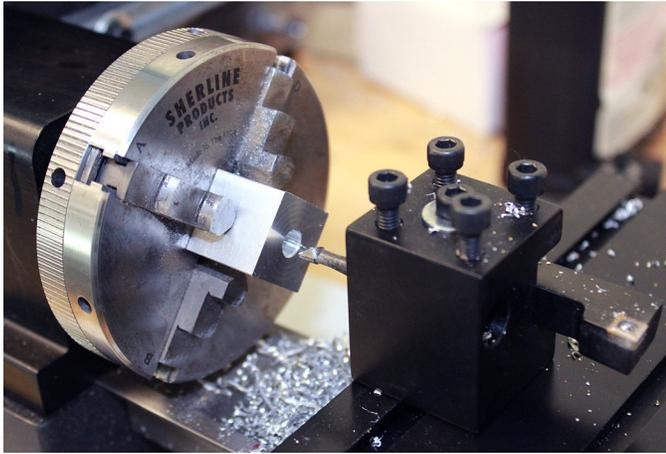

FIGURE 4—Boring the first hole to .240 diameter and .267" deep.
2. Rough and finish bore the  $.240$ " diameter x  $.267$ " deep on all sides. Machine the cube by cutting opposite sides (if it were numbers on a dice you would machine the side with (1) and then the side with (6) etc.). (See Figure 4.)